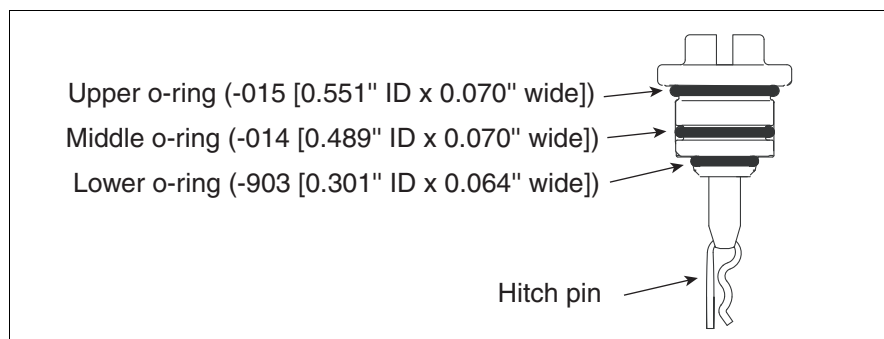

Figure 41. Hitch Pin In Position To Install Air Purge Screw
8. Lubricate the three O-rings on the new screw with petroleum jelly and install it with the hitch pin pushed on and hanging in the vertical position (see Figure 41).